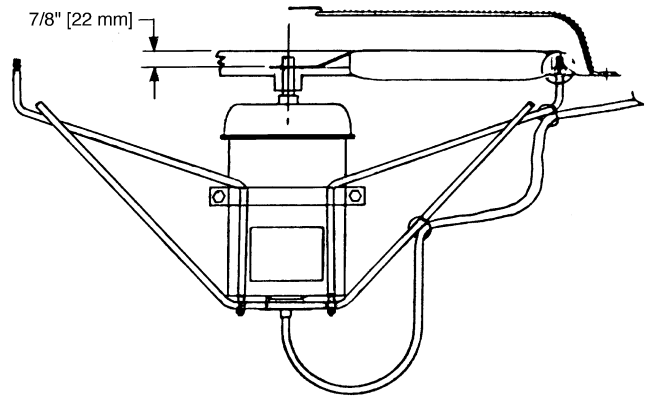

Fig. 3 — Condenser-Fan Adjustment
7. Re-install the propeller removed from Step 4. Adjust the fan height to the orifice edge per Fig. 3 (or specifications in base unit installation instructions). Use a straight edge laid across the top edge of the fan opening orifice. Tighten set screw and replace the rubber hub cap. Fill hub recess with Permagum if hub has no rubber hub cap. Check fan rotation (fan rotation should be clockwise facing into fan discharge).